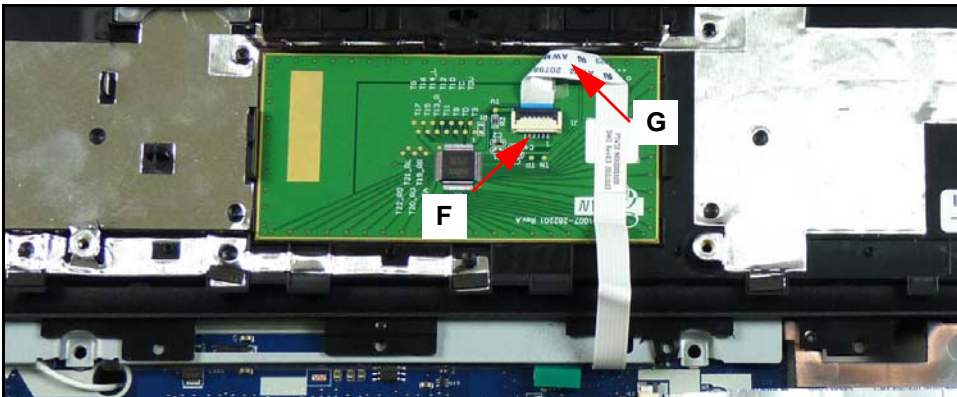

Figure 3-24. Touchpad FFC Removal from Touchpad Board
6. Remove touchpad FFC (G) from touchpad board connector (F). (Figure 3-24)
2. Install touchpad FFC (G) to touchpad board connector (F). (Figure 3-24)